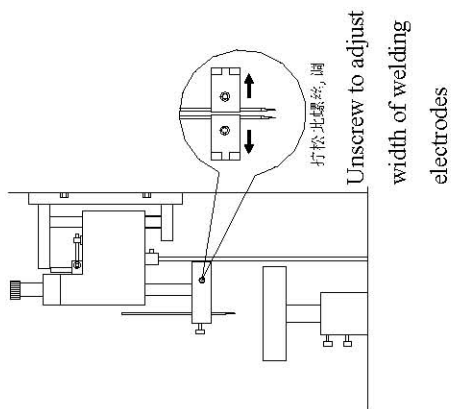

Fig.7: Adjust Width of Welding Electrode
- 3、 Adjust the width of welding electrodes (See Figure 7):
- 2、 Adjust the width of welding electrodes (See Figure 7):